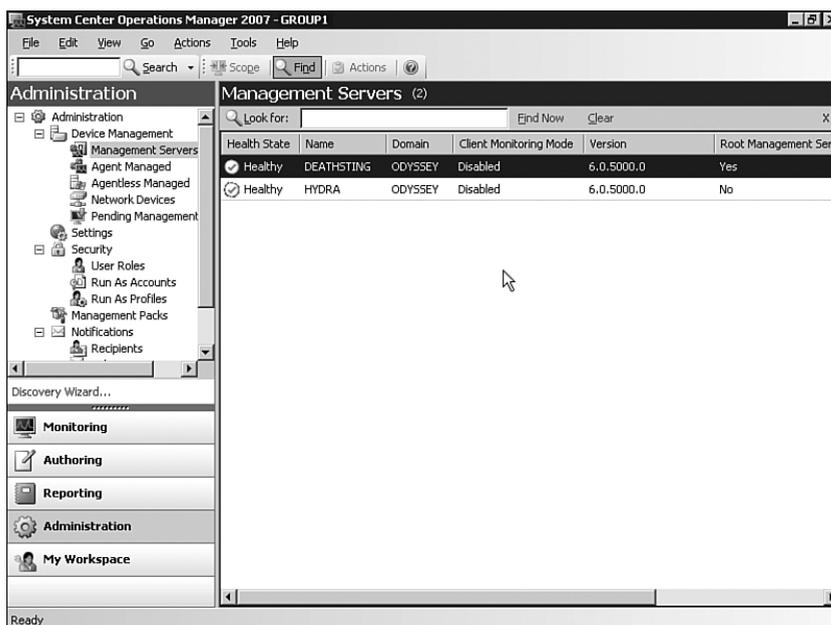

FIGURE 12.15 Initial Root Management Server and Management Server before changing roles.
1. Confirm you have a working RMS and second management server. Figure 12.15 shows our RMS (Hydra) and a management server (DeathSting) in the Operations console.